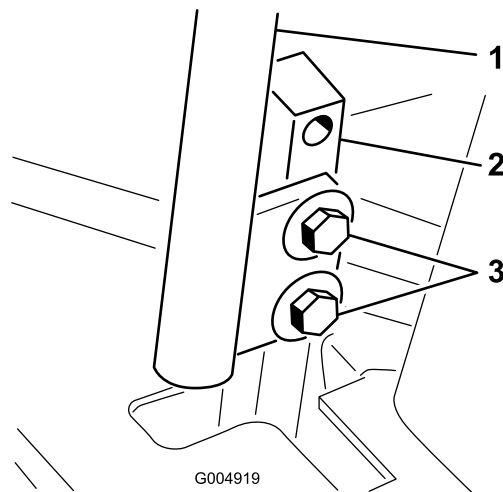

Figure 61
3. Loosen the bolts securing the control levers (Figure 61).